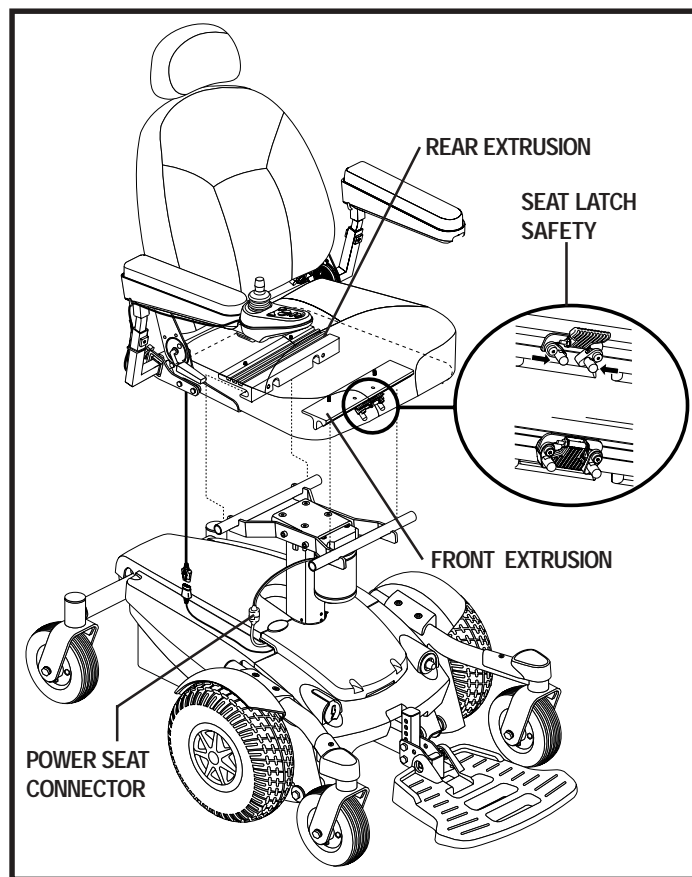

Figure 15. Universal Mounting System on Select 6 Ultra
It may be necessary to install the seat either prior to initial operation or after transporting your power chair. Most seats are attached to the power base with the Universal Mounting System (UMS). The UMS consists of universal parts that may be attached to any medium-back or high-back seat, regardless of seat width or seat depth. The two main components are aluminum extrusions mounted to the seat base. These extrusions attach to a pair of trapeze bars that are mounted to the power base. See figure 15.
4. Connect the power seat connector to the power base. See figure 15.